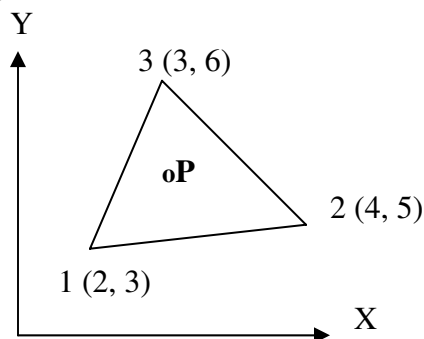

Fig: 2
b) The nodal coordinates of the triangular element are shown in Figure: 2. At the interior Point P, the X co-ordinate is 2.6 and $N_1 = 0.4$. Find N_2 , N_3 and the Y coordinate at Point P. [8+8]